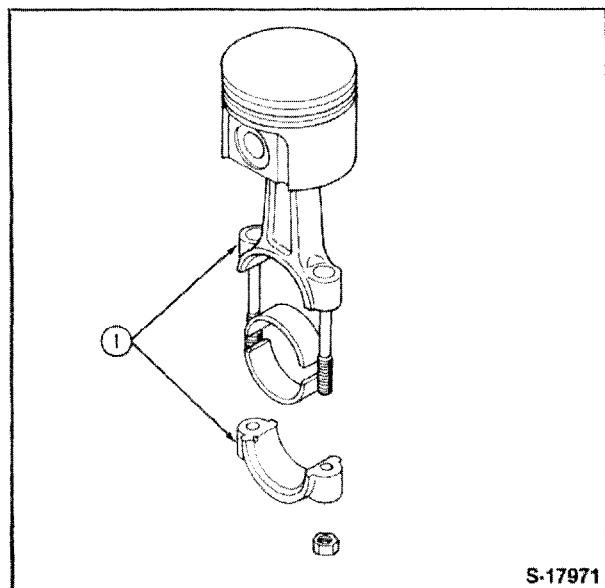

Figure 67
1. Using a suitable ring compressor, install the piston and rod assemblies in their respective cylinder bores. Position the pistons and rod assembly in the block, Figure 67, with the connecting rod number matching marks facing the injection pump side.
3. Reinstall the bearing caps making sure the rod and cap matching marks are aligned, Figure 67.